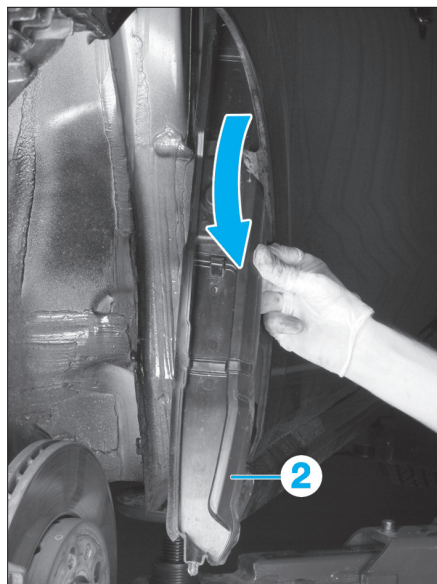

FIG. 115
- le support de mousse (2) (Fig.115),